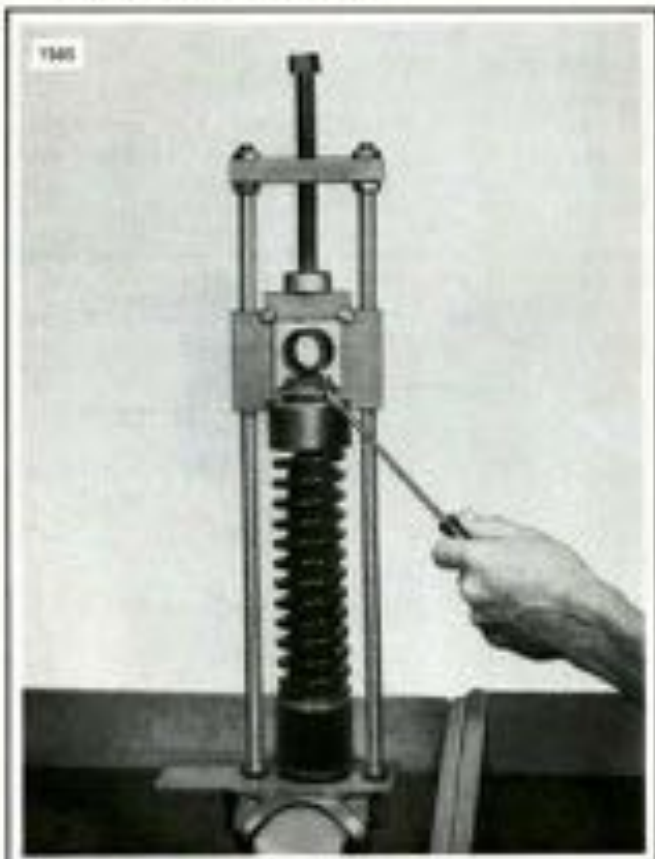

Figure 2-82. Disassembling Shock Absorber
1. See Figure 2-82. Place the shock, cam side down, in SHOCK COMPRESSOR, Part No. HD-97010-52A. Place an extra pressing block in the compressor to help compress the shock.